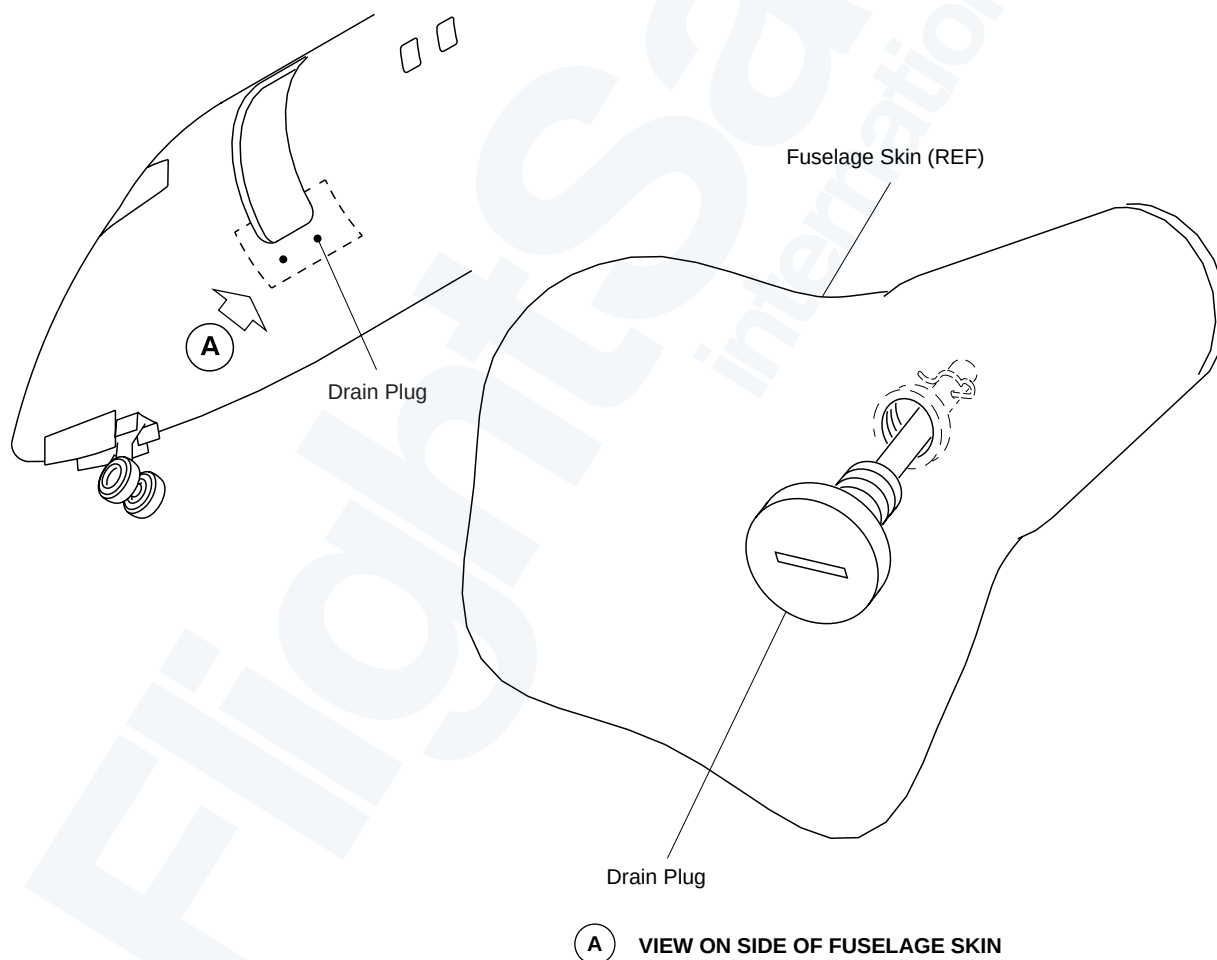

Figure 53-13. Airstair Door Threshold Drain Plugs - Opening/Closing
- Figure 53-13. Airstair Door Threshold Drain Plugs - Opening/Closing.